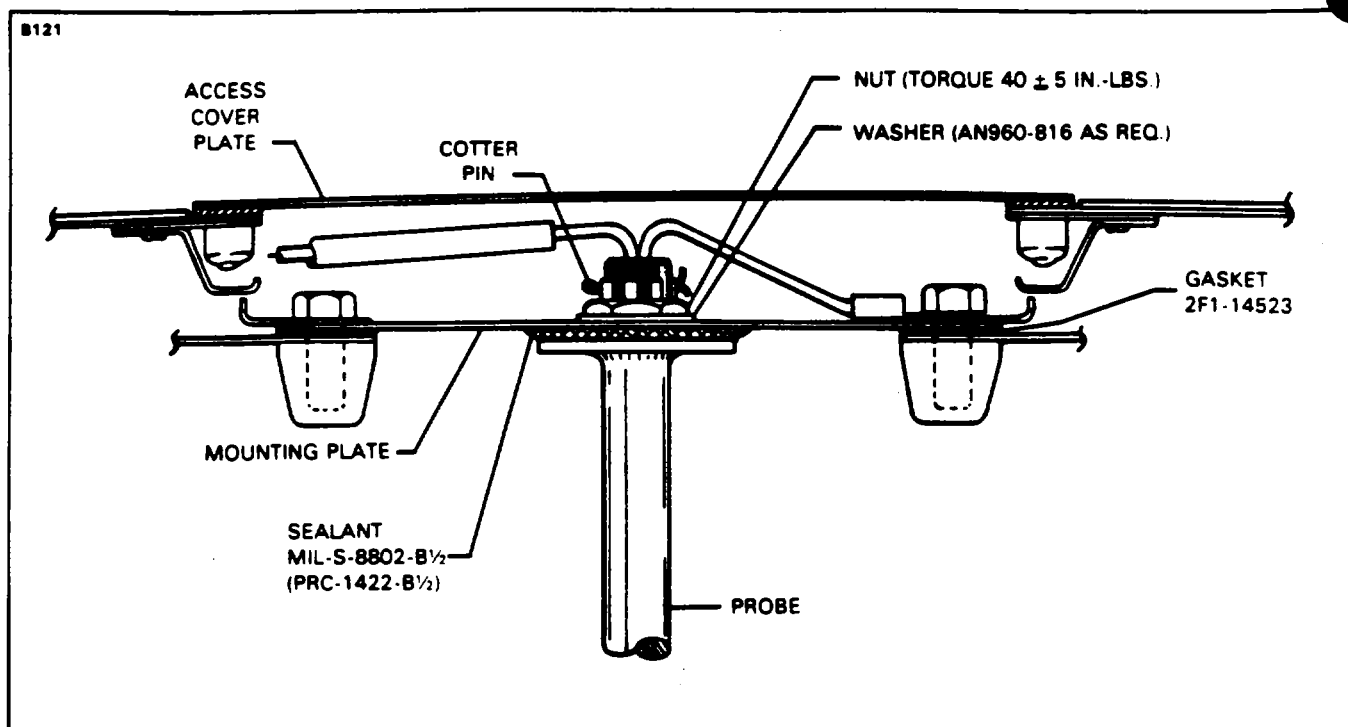

Figure 28-7. Low Fuel Warning Sender Sealing
LOW FUEL WARNING SENDER SEALING. (Refer to Figure 28-7.)
5. Assemble the probe to the plate as shown in Figure 28-7. It is acceptable to use a combination of light and regular washers to obtain alignment between the cotter pin hole and nut castellation. Torque the nut to 40 ± 5 in.-lbs.